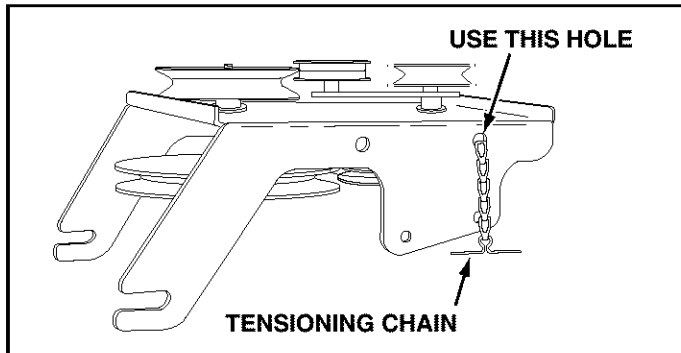

FIGURE 11
- Turn the clutch/idler assembly upside down and place the extra tensioning chain through the hole shown in figure 11.